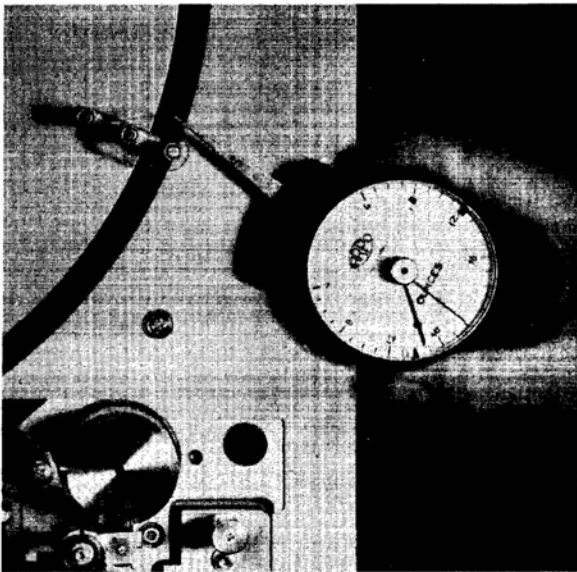

Figure 5-19d.
- Step 32: Holding dynamometer in right hand, place tension arm in center of travel in its arc (marked on cover plate by a small indentation) and dynamometer lever point in adaptor groove. (See Figure 5-19d.)